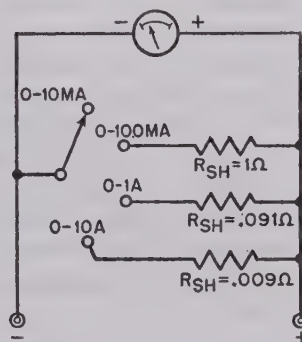

Figure 17. Multirange ammeter using separate shunts and switch.
a. MULTIPLE SHUNTS. In the multirange ammeter, it is possible to have several ranges of measurement. The meter can have a switching arrangement to change from one range to another (fig. 17), or pin jacks may be used. For example, it is desired to extend the range of a basic 0- to 10-ma ammeter to permit measurements from 0 to 10 ma, 0 to 100 ma, 0 to 1 ampere, and 0 to 10 amperes. For range 1 (0 to 10 ma), no shunt is necessary, since the movement is designed to handle 10 ma. For range 2 (0 to 100 ma), R_{SH} equals $R_M I_M / I_{SH}$ or 9 times .01/.09, or 1 ohm. For range 3 (0 to 1 ampere), R_{SH} is equal to 9 times .01/.99, or .091 ohm. For range